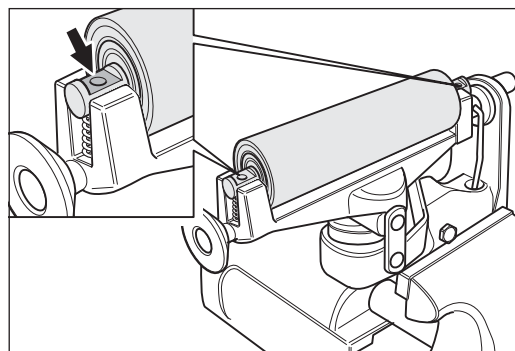

Fig. 83 Insert the new tensioning roller, ensuring that the surfaces on the shaft ends are pointing upwards!
- 6 Insert the compression spring and the tensioning roller. Ensure that the surfaces on the shaft ends of the tensioning roller are pointing upwards (Fig. 83)!